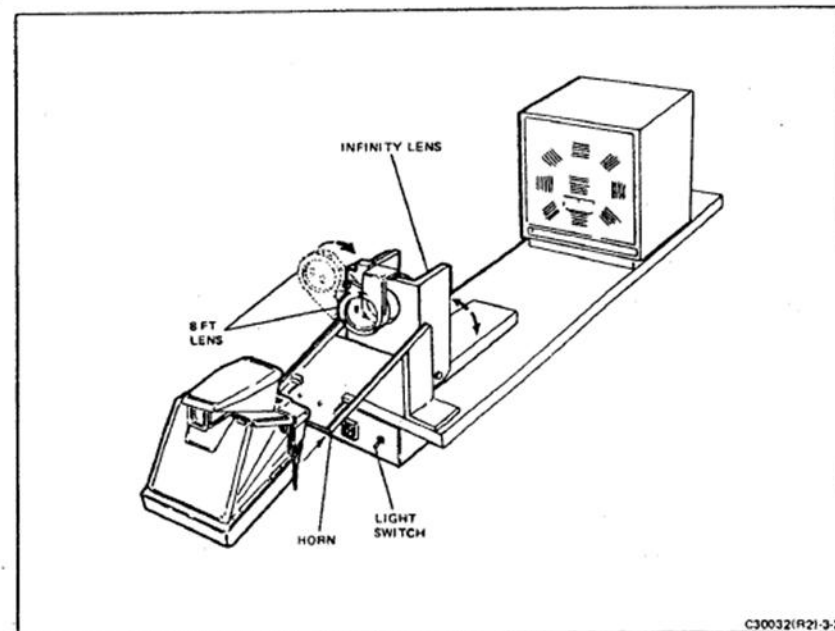
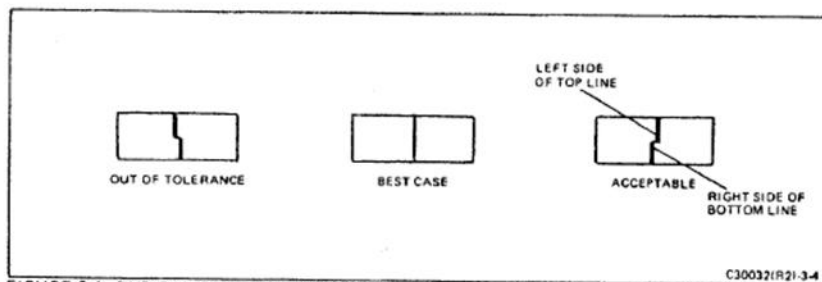

FIGURE 3-2 SX-70 COLLIMATOR
FIGURE 3-4 TYPICAL COLLIMATION CONDITIONS
2. Collimator (Figure 3-2)
- (1) Remove the camera front cover and load the camera onto the horn of the collimator #321564 (Figure 3-2). (The collimator uses a rear-illuminated target so no additional equipment is needed.)
- (2) Turn on the collimator light.
- (3) View the added target with the focus wheel set to infinity.
- (4) Compare the observed conditions with the examples shown in Figure 3-4. As indicated (best case), the upper part of the vertical line should be aligned with the bottom part of the line or it may be displaced to the right. (If displaced to the right (acceptable), it should still be touching the lower part of the line.)
- (5) If the upper part of the line is displaced to the right so far that it does not touch the lower part of the line or if it is displaced to the left (out of tolerance), the tolerance levels are exceeded and the camera must be rejected. Corrective procedures are outlined in Section 4.
- (6) Verify the infinity setting. Do this by observing the vertical line target through the collimator infinity lens and the camera optics. The line should be straight within the tolerance shown in Figure 3-4.
- (7) Swing the collimator infinity lens back down to its horizontal position, out of the viewing path of the camera. Turn the camera focus wheel to the 10.4" setting.
- (8) Look through the camera and observe the vertical line target. Compare the observed image with Figure 3-4 to determine if the camera is within specifications.
- (1) Set the camera focus to infinity and the L/D control to mid-range. Set the power supply to 5.8 volts.
- (2) Remove the front cover from the camera and install the S7 switch actuator.
- (3) Install the camera on the horn of the tester. The camera should go through its dark-slide cycle.
- (4) Remove the camera from the tester and set it on the collimator.
- (5) Swing the 8' and infinity lenses into their vertical positions on the collimator and look through the camera eyelens.
- (6) Turn the focus wheel until the vertical line in the center target is straight (refer to Figure 3-4). The camera is now collimated for the 8' setting. Tape the focus wheel so it can't be accidentally moved.
- (7) Remove the camera from the collimator and place it on the tester.
- (8) Install the flash simulator plug into the socket on the camera and close the S2 CLOSE-OPEN SWITCH.
- (9) Set the light level selector to 800 cdis/ft².
- (10) Set the flash mode aperture switch to 8'.
- (11) Block any light from the photocell on the camera using a square of cardboard or other material.
- (12) Depress the exposure button and observe the APERTURE meter.
- (13) Record the 8' APERTURE reading and compare it to the STANDARDS Chart.
- (14) Remove the tape from the focus wheel and rotate the wheel to the 10.4" setting.
- (15) Set the flash mode aperture switch to 10.4".
- (16) With the photocell still blocked, press the exposure button and observe the APERTURE meter.